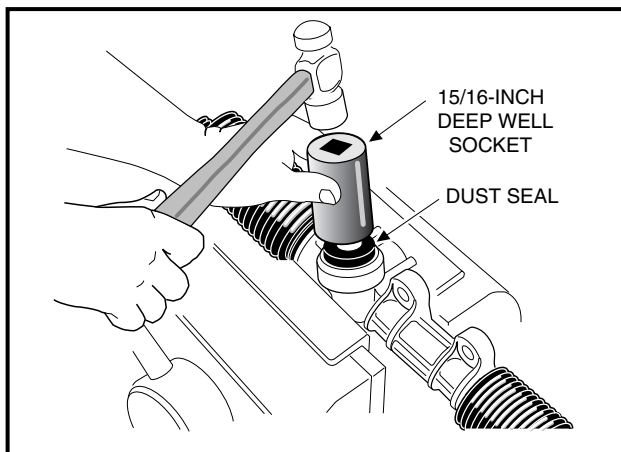

Figure 7-13 Press In Dust Seal
9. Use a socket to apply pressure evenly, and press in a new dust seal (**Figure 7-13, Page 7-11**).